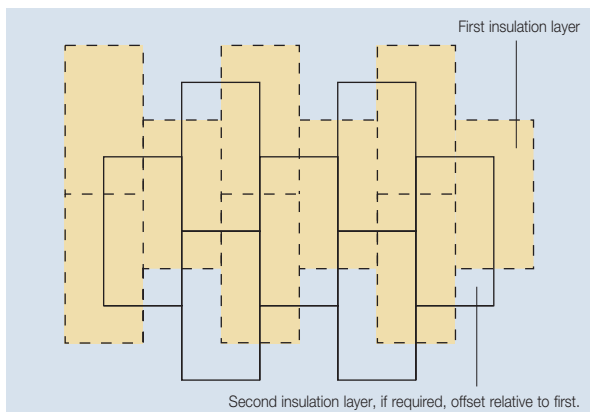

Figure 15 – Offsetting of Multiple Insulation Layers
- If two layers of insulation are required, they should be horizontally offset relative to each other so that, as far as possible, the board joints in the two adjacent layers do coincide with each other (see Figure 15).
- If two layers of insulation are required, they should be horizontally offset relative to each other so that, as far as possible, the board joints in the two adjacent layers do not coincide with each other (see Figure 15).